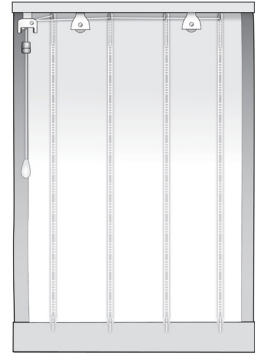
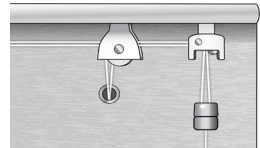

Figure 14: Cording Back of Shade
Figure 15: Cord Lock and Pulley
1. Check the cording and rings on the back of the shade **[Figure 14]**.
1. Make sure the cords are not wrapped around each other or tangled, and that the cords run freely through the cord lock and the pulleys **[Figure 15]**. Confirm that the cords run freely down the back of the shade and do not interfere with the lift cords **[Figure 14]**.